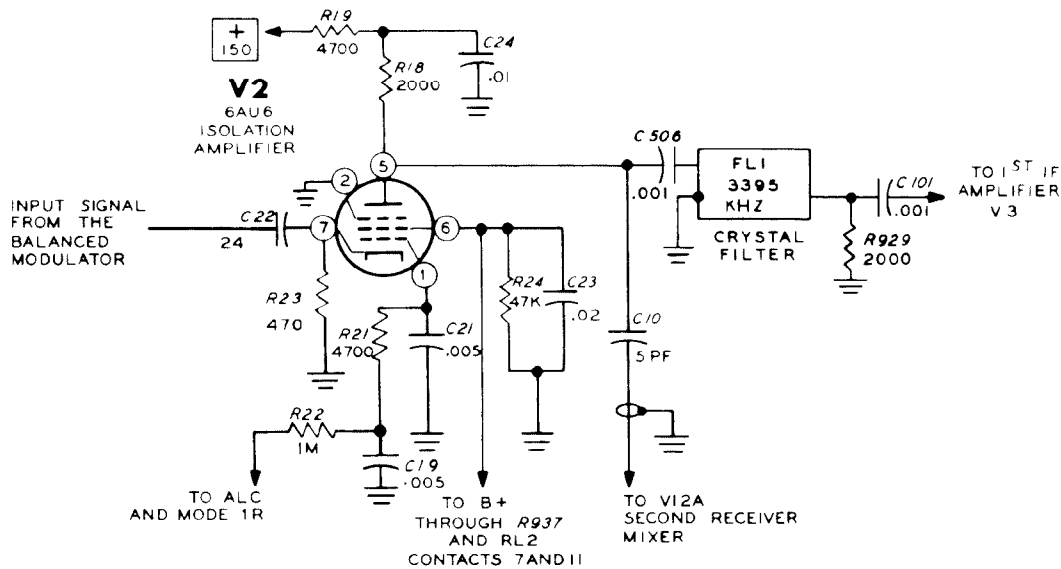

Figure 2-9
**ISOLATION AMPLIFIER (Figure 2-9)**